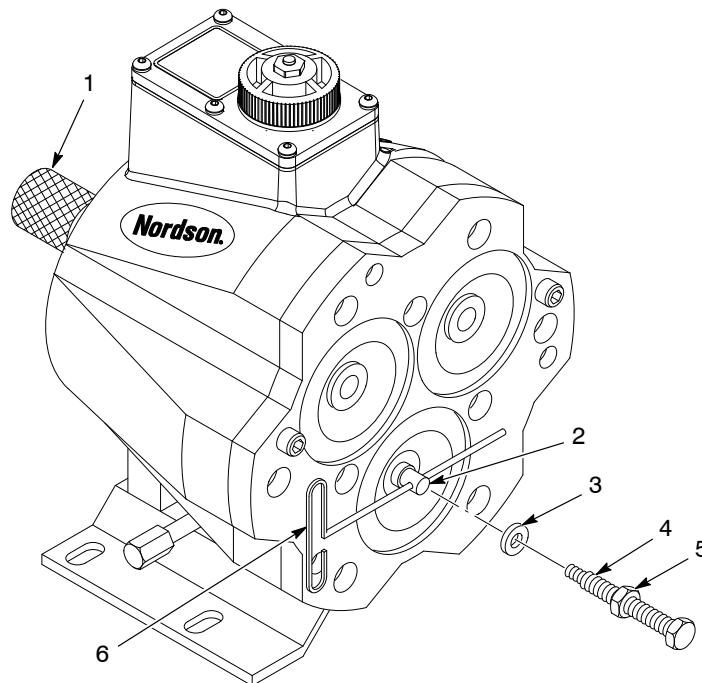

Figure 12 Plunger Installation
1. See Figure 12. Install the shaft rotator tool (1) on the pump shaft. The keyway on the pump shaft corresponds to the high spot on the cam. Rotate the pump shaft until a plunger stem (2) is aligned with the keyway.
2. Place a plunger (3) on the screw end of the plunger guide tool (4). The flat side of the plunger should face the tool.
4. Pull the plunger guide tool until a drilled cross hole is exposed. Install the wrench (6) into the drilled cross hole.
5. Press fit the plunger to the plunger stem (2):
- a. Tighten the plunger guide tool nut (5) down against the plunger (3) by hand.